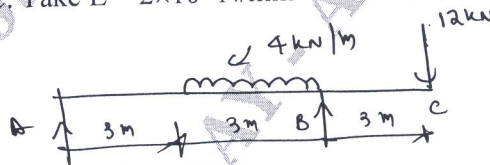

Fig.Q9(b)
- b. An overhanging beam ABC is loaded as shown in Fig.Q9(b). Determine the slope and deflection at its free end C. Take $E = 2 \times 10^5 \text{ N/mm}^2$ and $I = 5 \times 10^8 \text{ mm}^4$.